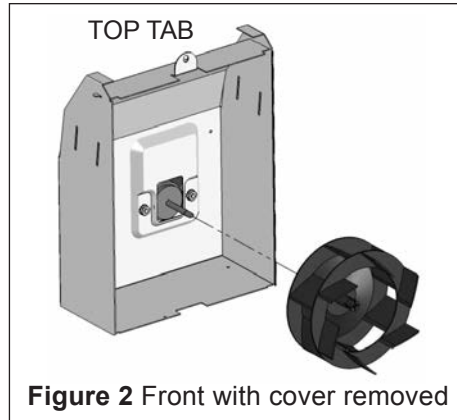

Figure 2 Front with cover removed
10. Properly align blower and press back into place. Spin with finger to make sure blower is spinning freely. (See Figure 2)